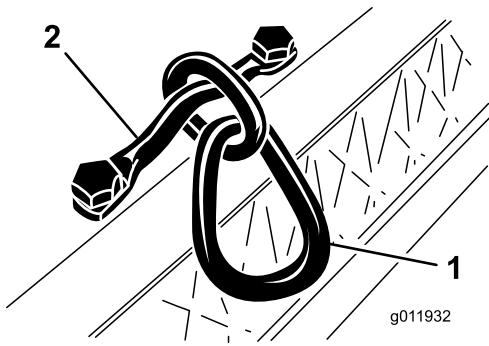

Figure 7
- Torque the capscrews to 34 to 40 N·m (25 to 30 ft·lb) (Figure 7).